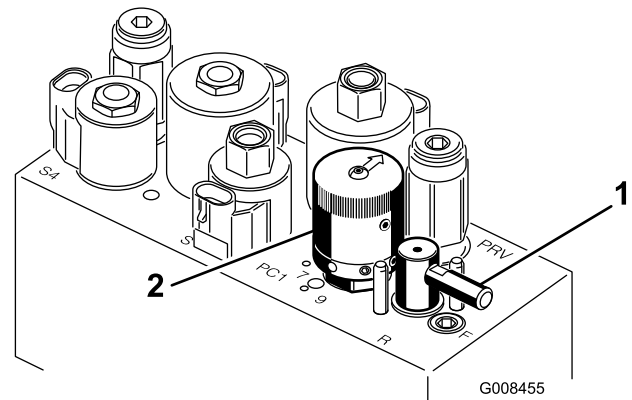

Figure 50
5. Rotate the Backlap Lever to the "R" position (Figure 50).
6. Rotate the Reel Speed Control to setting 1 (Figure 50).